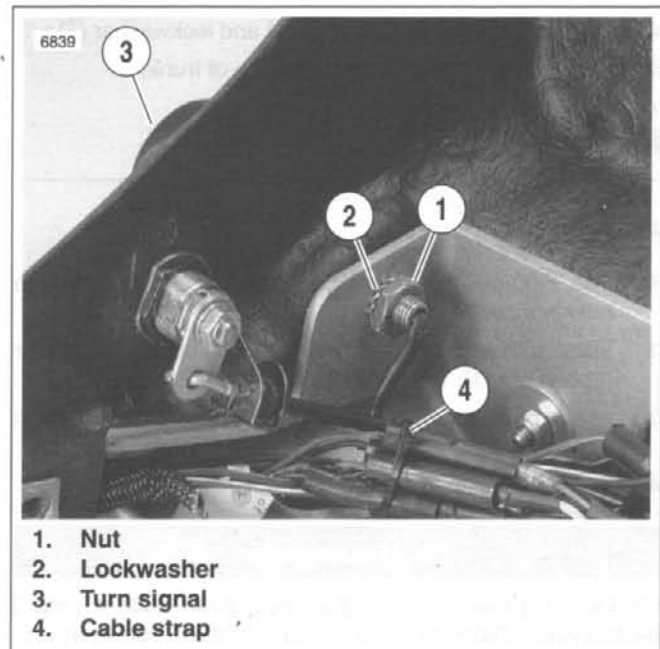

Figure 7-49. Rear Turn Signals
4. See Figure 7-49. Remove nut (1) and lockwasher (2).
5. Remove turn signal (3) from outside of trunk.
1. See Figure 7-49. Insert bullet connectors through rear hole in trunk. Attach turn signal (3) using lockwasher (2) and nut (1). Tighten to 96-120 in-lbs (10.8-13.6 Nm).